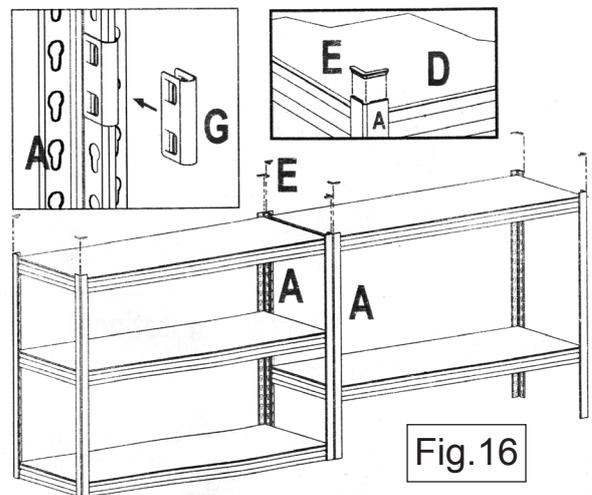

Fig.16
**4.14 See Fig.16.** Place the two units end to end and join them together using the 2 post clips (G). Insert a post cap (E) into the top of each 'A' post.